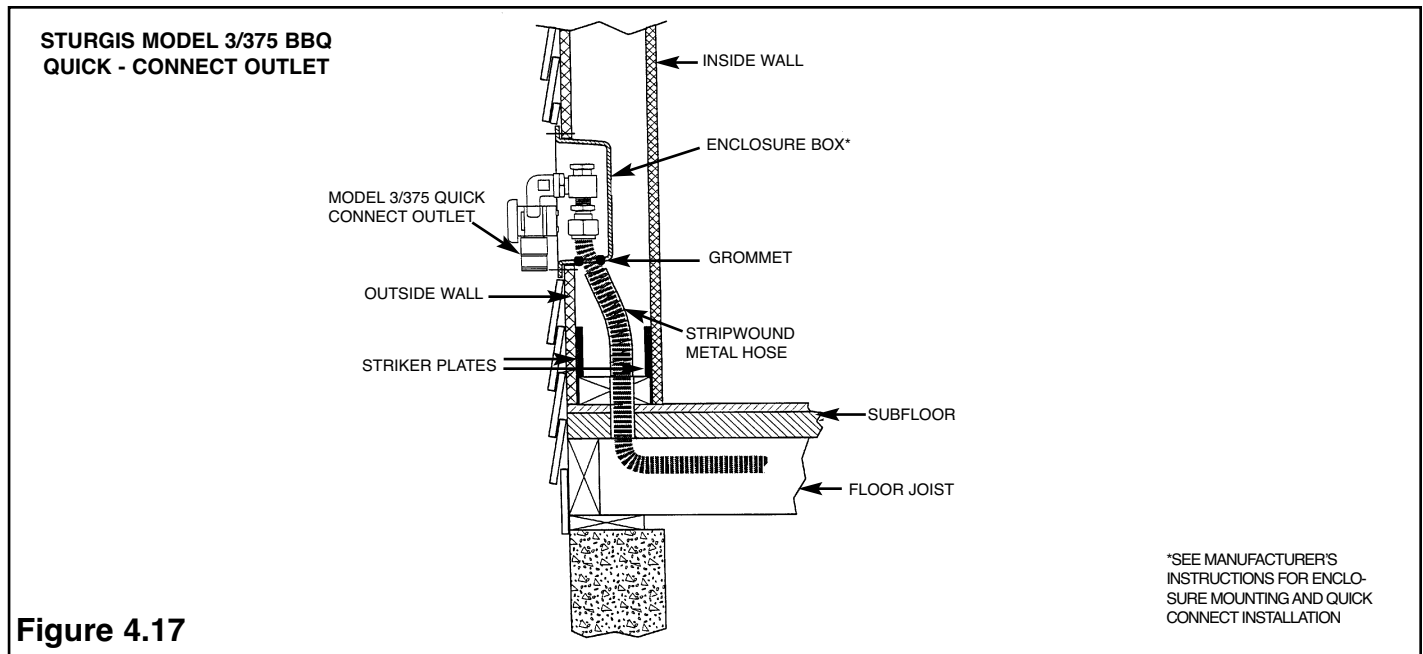
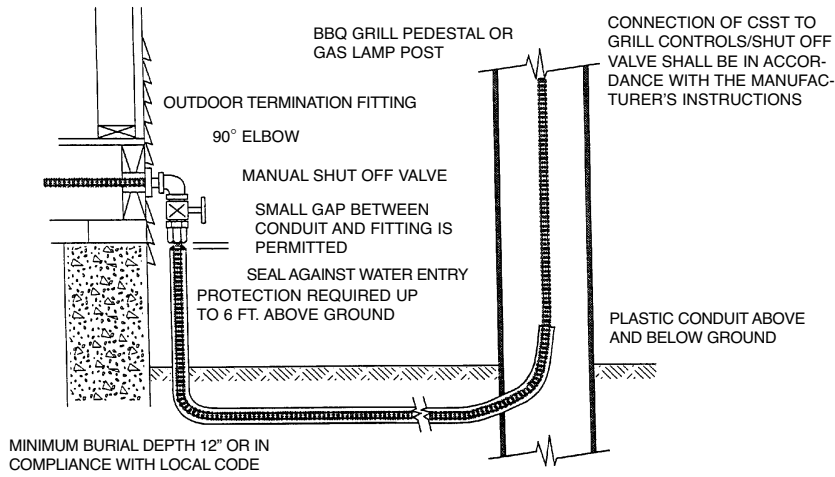

Figure 4.17
Figure 4.21
- Permanently mounted lights located on decks shall be connected to the WARDFLEX system the same as permanently mounted grills as shown in Figure 4.21 and in accordance with the manufacturer's instructions.
- Yard mounted lights shall be connected to the WARDFLEX system as shown in Figure 4.21. All WARDFLEX installed below grade shall be protected by nonmetallic conduit. Exposed ends shall be sealed against water entry from entering by wrapping two layers of tape (e.g. PVC, Silicone) or by applying shrink sleeves (e.g. PVC, Polyolefin).
- Movable grills shall be connected using an approved out door appliance connector which shall be attached to the WARDFLEX system at either a termination fitting as shown in Figure 4.21, or a quick-connect device, such as the M.B.Sturgis Model 3/375 shown in Figure 4.17. The M.B. Sturgis Model 3/375 outlet shall be installed in accordance with the manufacturer's instructions.